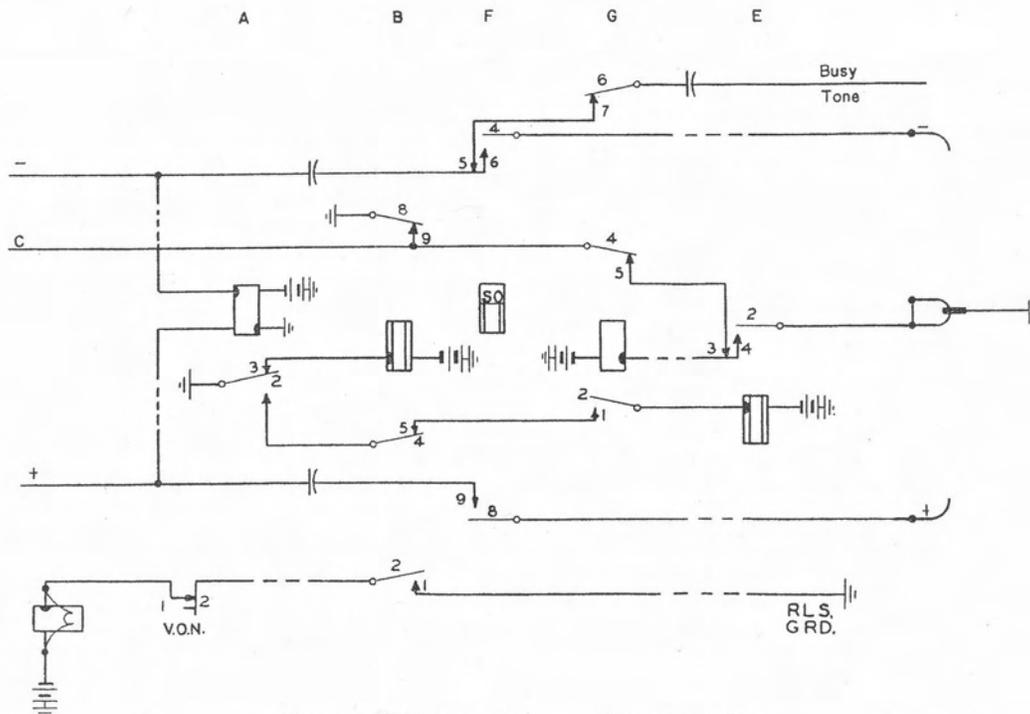

Figure 19. Release from a call to a busy line.
18.3 Release after calling a busy line (figure 19). If the called line was busy, relays K, F, and D did not operate, so only relays A, B, and G must be released (figure 19). When the caller hangs up, relay A releases, opening the circuit thru relay B. Relay B removes ground from lead C to release the preceding switches, releases relay G, and operates the release magnet. See §18.5.